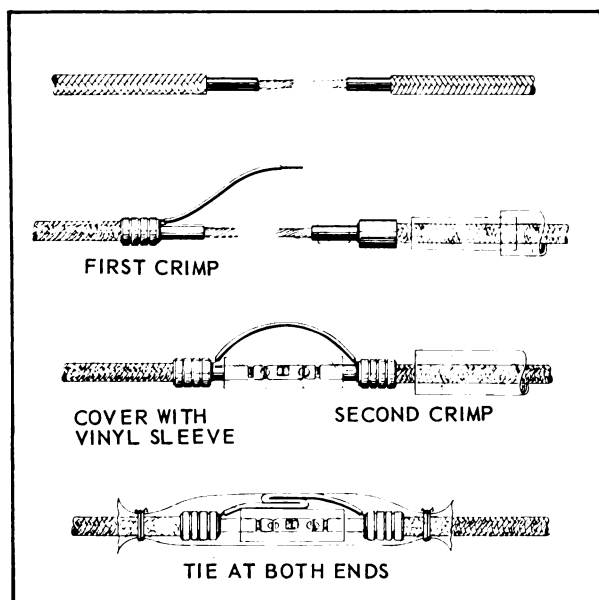

Figure 14-5. Repair of Shielded Wire
14-8. REPAIRING SHIELDED CABLE. When shielded cable is severed it can be repaired in the following manner: See Figure 14-5.
c. Slide two insulating sleeves, the inner one just large enough to pass over the grounding sheath connector, and the outer one large enough to accommodate the inner insulating sleeve and the grounding lead. The inner insulating sleeve should be just long enough to completely cover the permanent splice. The outer sleeve must be long enough to extend beyond the two grounding sheath connectors as shown in Figure 14-5.
g. Slide inner insulating sleeve into position as shown in Figure 14-5.